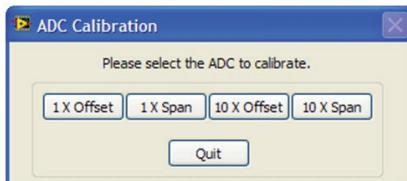
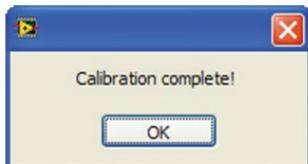

Figure 6.4
Figure 6.6
3. Click on the “Analog to Digital Converter” button of the GUI Calibration window. This opens up a window as shown in Figure 6.4.
6. Click “OK” to let the software perform calibration. Upon completion, the software displays the screen as shown in Figure 6.6. Click “OK” to go to the ADC calibration screen, as shown in Figure 6.4.
9. Click “OK” to let the software perform calibration. Upon completion, the software displays the screen as shown in Figure 6.6. Click “OK” to go to ADC calibration screen, as shown in Figure 6.4.
6. Click “OK” to let the software perform calibration. Upon completion, the software displays the screen as shown in Figure 6.6. Click “OK” to go to ADC calibration screen, as shown in Figure 6.4.
9. Click “OK” to let the software perform calibration. Upon completion, software displays the screen as shown in Figure 6.6. Click “OK” to go to ADC calibration screen, as shown in Figure 6.4.